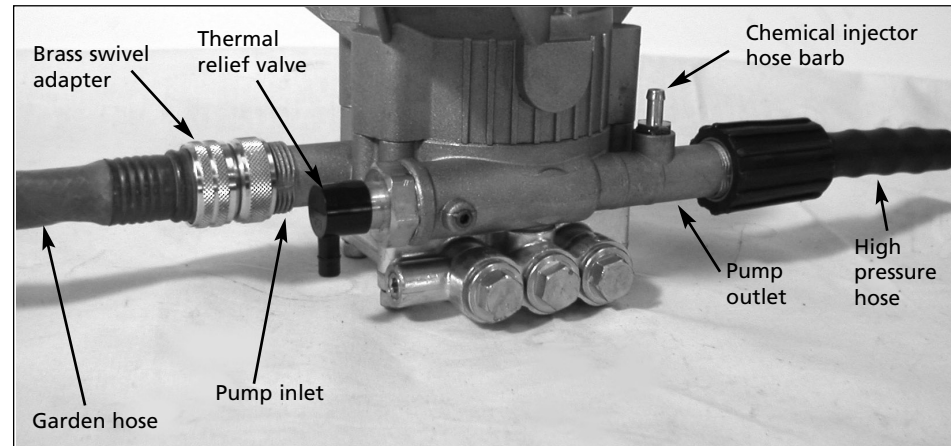
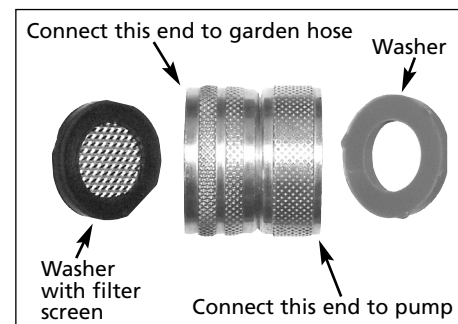
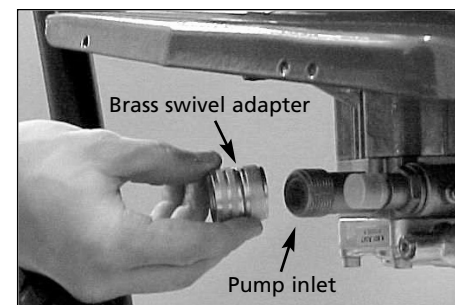

Figure 2 - Pump hook up
Figure 4 - Brass swivel adaptor
Figure 5 - Connect the brass swivel to the pump
4. **Brass Swivel Adaptor** (See Figure 2). If it's not already attached to the pump inlet, assemble the brass swivel adaptor and attach it to the pump inlet (See Figure 4 and Figure 5). Be sure to connect the correct side of the brass swivel adaptor to the pump.
6. Connect the high pressure hose to the pump outlet (See Figures 2 and 6).